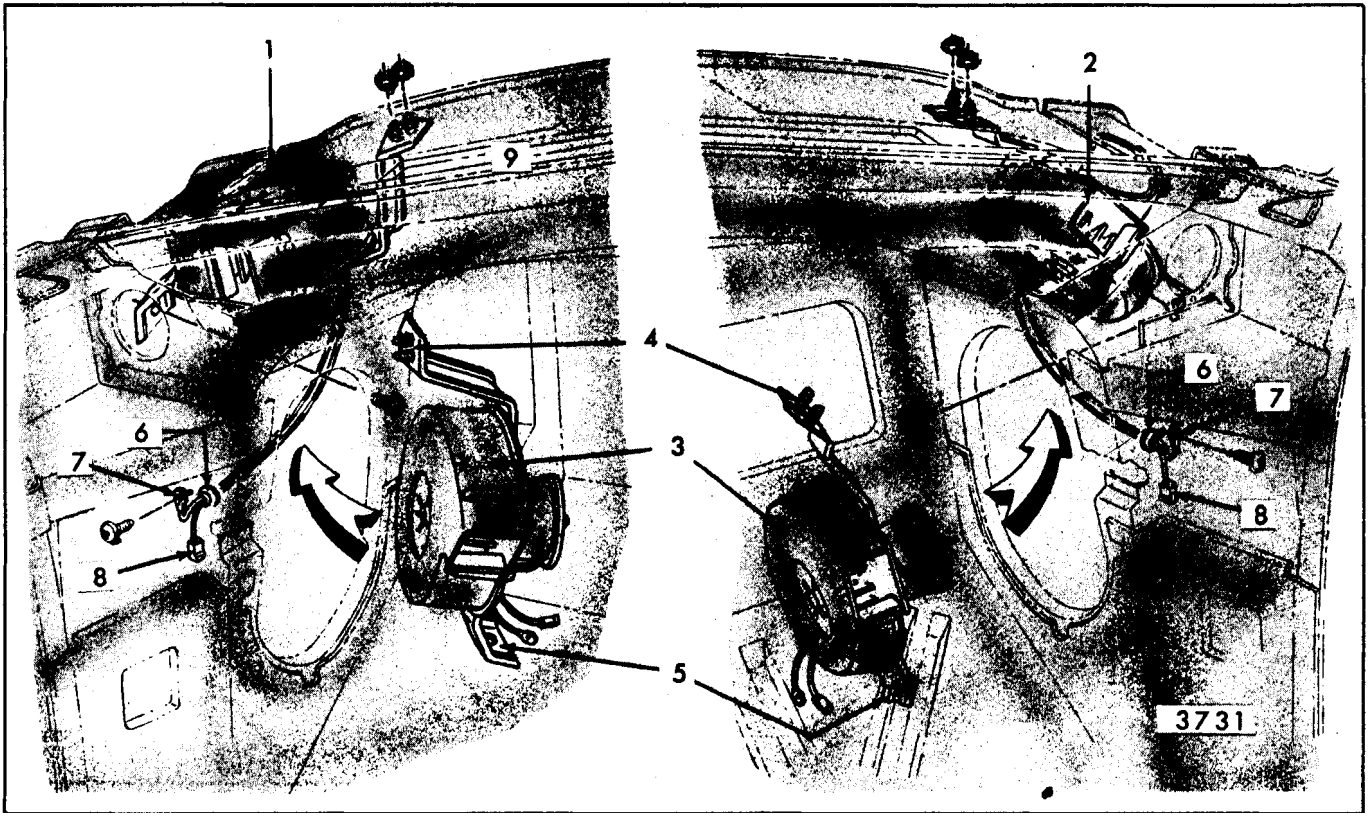

Fig. 5-8-High-Level Ventilation Blowers Buick "A" Styles
2. Unplug electrical wiring, disengage wiring grommet, and remove screw securing ground wire (Fig. 5-8).